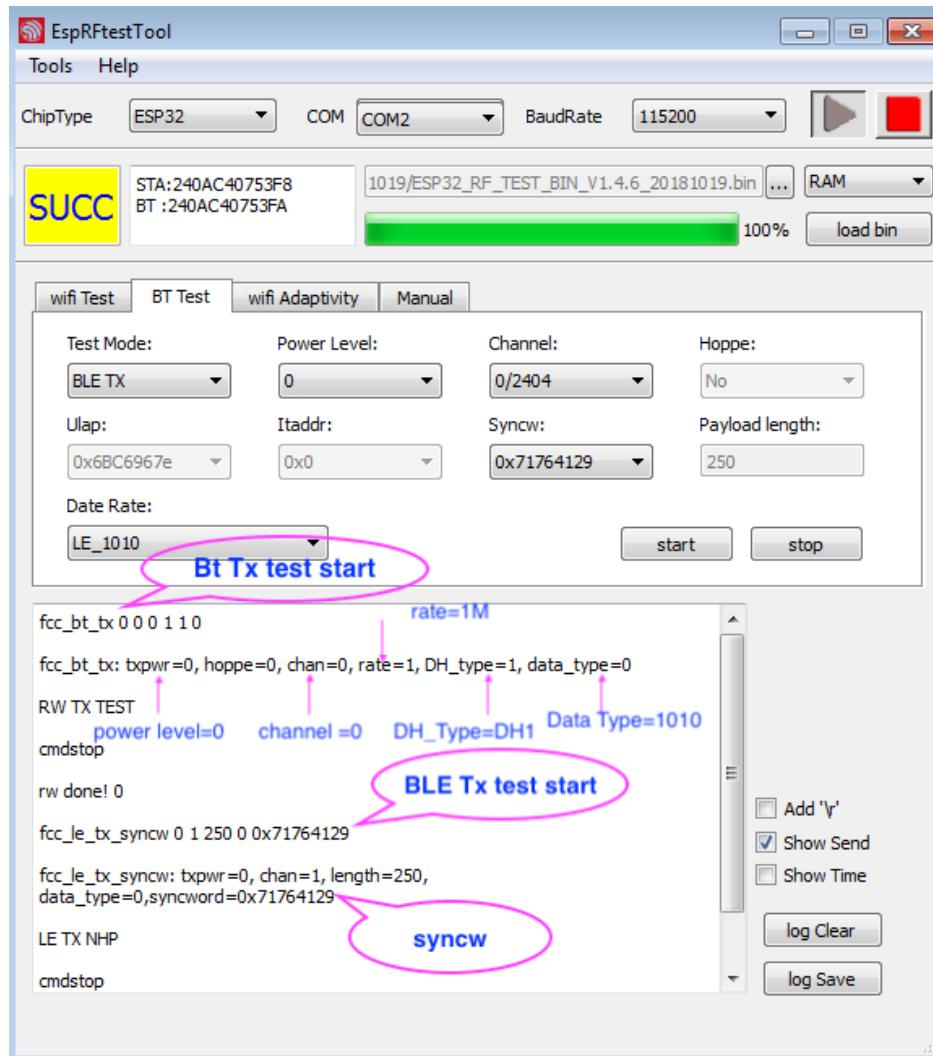

Figure 5-3. Log Output of the BT TX Test
1. To test the BT TX performance with the data rate BR 1M, the DH type DH1, the data type 1010, and the TX channel 0, please refer to Figure 5-3 for your configurations. The log information section gives you the TX details.